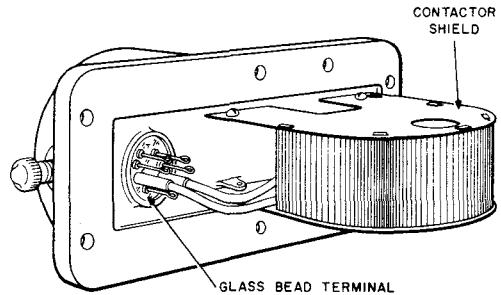

Fig. 2 — Contactor-Terminal Replacement Unit
→ 4.01 A damaged K or T Pressure Contactor-Terminal can generally be repaired by replacing the contactor mechanism with one of the proper type (see 2.01) or by replacing the K or T Pressure Contactor-Terminal Replacement Unit. This unit, illustrated in Fig. 2, consists of the housing cover, terminal and contactor mechanism.
4.03 *When the K or T Pressure Contactor-Terminal Replacement Unit* is required for reconditioning a contactor-terminal, the assembled replacement unit, shown in Fig. 2, including the associated rubber gaskets, should be installed as follows: